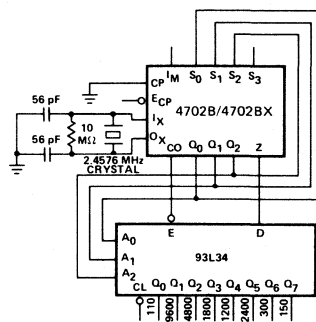

Fig. 2
Fixed Programmed Multichannel Operation — *Figure 2* shows a simple scheme that generates eight bit rates on eight output lines, using one 4702B/4702BX and one 93L34 8-Bit Addressable Latch. This and the following applications take advantage of the built-in scan counter (prescaler) outputs. As shown in the block diagram, these outputs (Q_0 to Q_7) go through a complete sequence of eight states for every half-period of the highest output frequency (9600 Baud). Feeding these Scan Counter outputs back to the Select inputs of the multiplexer causes the 4702B/4702BX to interrogate sequentially the state of eight different frequency signals. The 93L34 8-Bit Addressable Latch, addressed by the same Scan Counter outputs, reconverts the multiplexed single output (Z) of the 4702B/4702BX into eight parallel output frequency signals. In the simple scheme of *Figure 2*, input S_3 is left open (HIGH) and the following bit rates are generated: